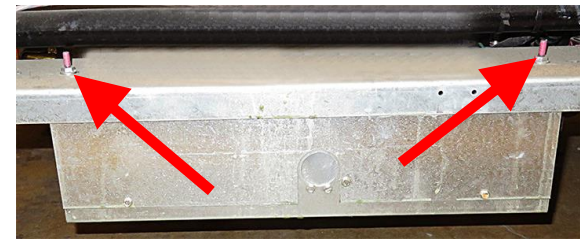

Figure 5
7. Using a 7/16" inch wrench, remove the nuts securing the transformer box (see Figure 5).